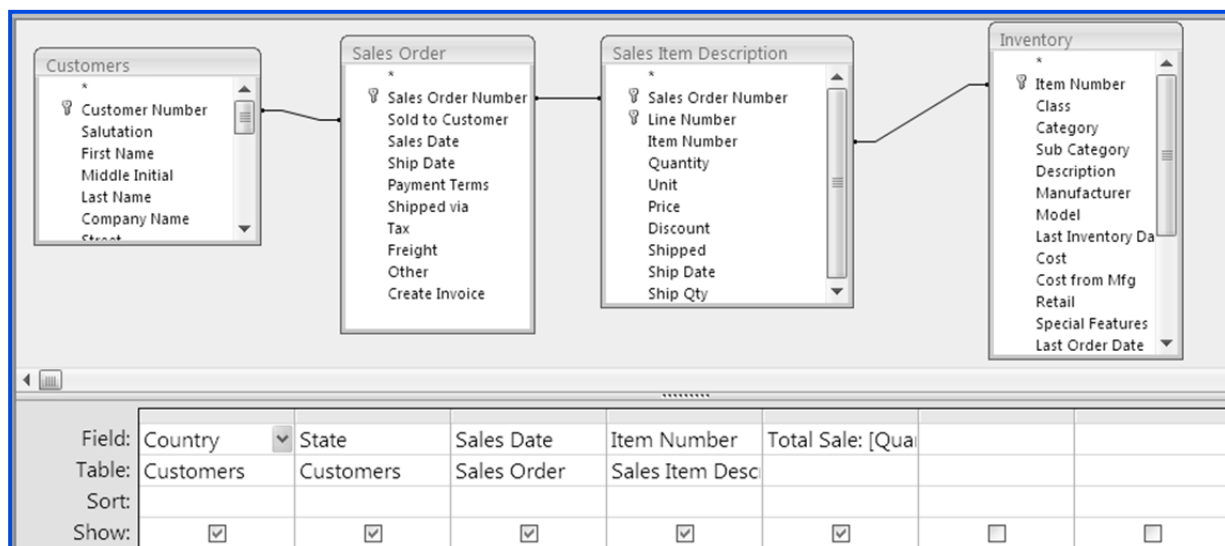

Fig. 2.3.15. The query Design window
3. Select *Country* and *State* from the *Customers* table and drag them to the *Add Columns* tab. Similarly add the column *Sales Date* from *Sales Order* table and *Item Number* from *Inventory* table. Also add a calculated column as *Total Sale: [Quantity] * [Price]*. The resultant query window is displayed in Fig. 2.3.15.